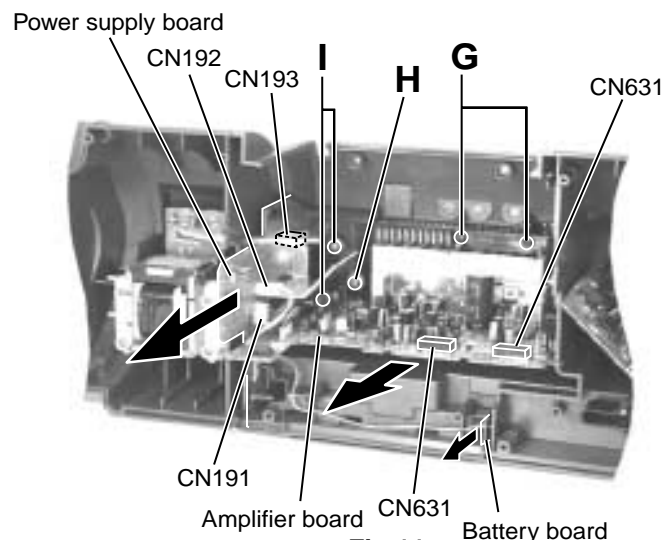

Fig.11
■ Remove the amplifier board, the power supply board and the battery board (See Fig.11)